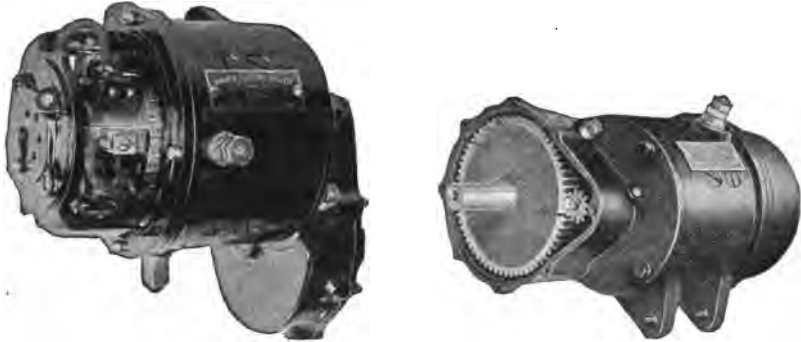

Fig. 353. Wagner Six-Volt Two-Unit Type Starting Motor. Left—Commutator End; Right—Gear End
**Starting Motor.** The motor is four-pole and series-wound, driving through a reducing gear mounted on the motor housing, Fig. 353.